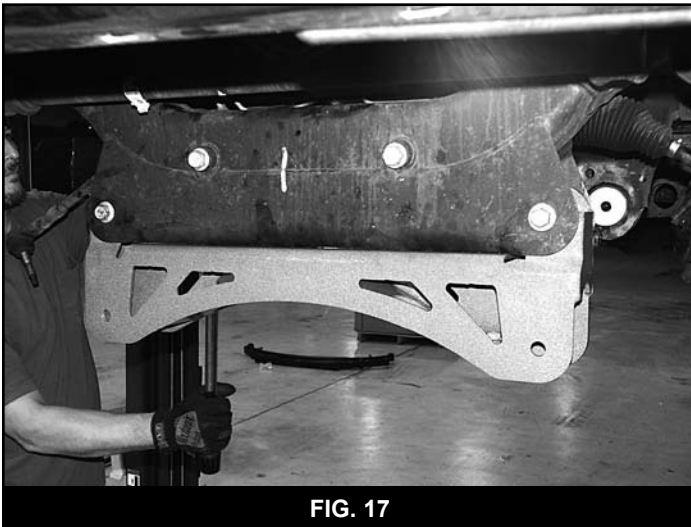

FIG. 17
40. Install the new front crossmember (01232) in the OE front lower control arm pockets and loosely fasten with the OE lower control arm hardware (Fig 17). Note: The offset in the crossmember goes to the front, bolts run from front to rear.